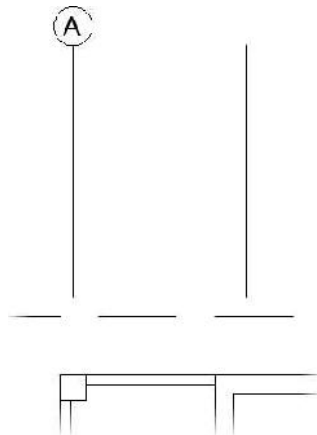

FIGURE 9.10: The first grid symbol block is inserted.
6. Verify that the Enter Grid Letter value is set to A in the Edit Attributes dialog box. Click OK. Clicking OK inserts the grid symbol at the endpoint of the leftmost vertical gridline (see Figure 9.10).